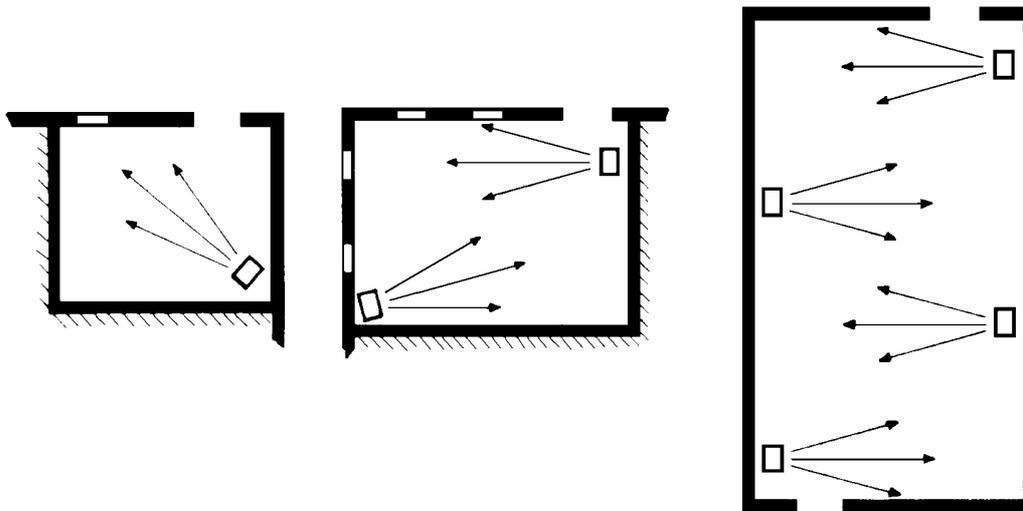

Figure 16 – Sample positioning of the units
- for better heat distribution in the case of multiple unit installation, create alternate flows of hot air (see Figure 16 on page 43).